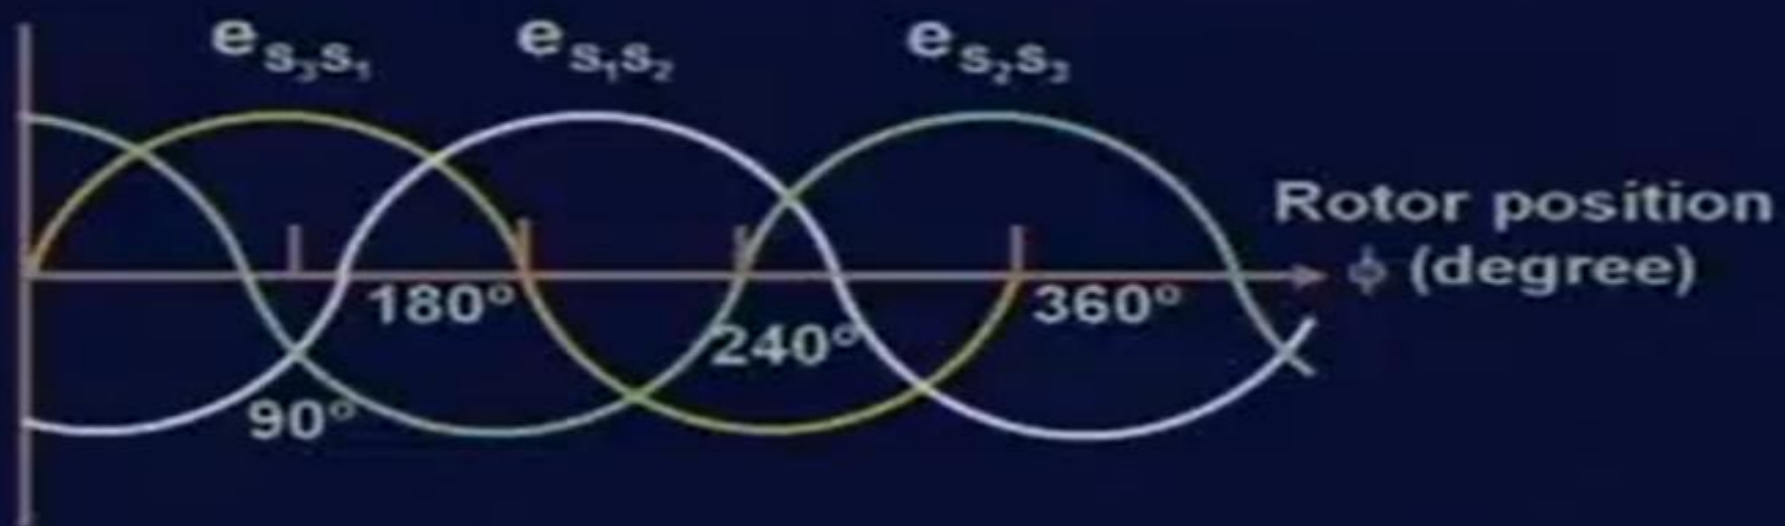

Fig. 3 The plot of stator voltages of a synchro transmitter Vs. ϕ (which is in counter clockwise direction).
- For a given stator coil, the open-circuit output voltage is sinusoidal in time and varies in amplitude with rotor position, also sinusoidally, as shown in Fig. 3.